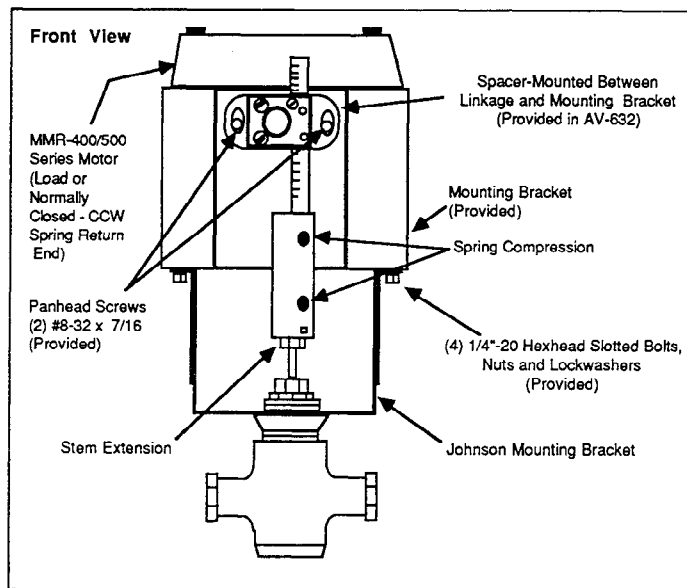

Figure 20. Johnson Valve Linkage CCW Stem Up
Mounting to Johnson Y20EBD Valve Linkages (See Figures 20 thru 23):
7. Tighten the two screws holding the gear housing assembly and replace gear cover plate and tighten these two (2) screws. (see figures 20 or 21).
9. Tighten all four (4) 1/4" bolts in motor at base yoke.